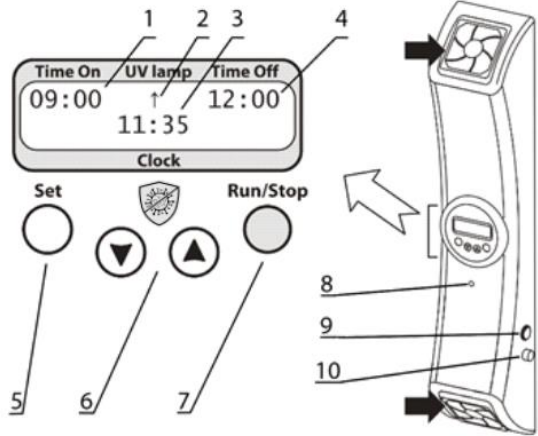

Figure 5. UVR-Mi control panel and overview
- 5.2.1 Plug the power cord to a grounded mains socket. Switch on the power switch (fig. 5/9) on the side to the right.
- Air flow recirculation start time in the automatic mode - Time On (fig. 5/1);
- Air flow recirculation end time in the automatic mode - Time Off (fig. 5/4);
- UV-recirculator operating indicator - UV lamp (fig. 5/2);
- Real time clock (fig. 5/3).
- 5.2.3 **Parameter setting.** Hold the **Set** key (fig. 5/5) pressed for more than 6 seconds to activate parameter setting mode.
- 5.2.3.1 Change the currently flashing parameter using the ▼ and ▲ keys (fig. 5/6). Pressing the key down longer than 2 seconds makes the values change quicker.
5.2.4.1 **Manual mode.** Press the **Run/Stop** key (fig. 5/7) to start or stop recirculation. While recirculator is working, symbol “↑” indication is shown on the display (fig. 5/2).
5.2.4.2 **Automatic mode.** Set recirculation start (**Time On**, fig. 5/1) and end (**Time Off**, fig. 5/4) times, as described in **5.2.3**. Unit saves the parameters after unplugging. On set start time, a powered unit starts recirculator, if it was not started already. On reaching the end time, unit turns off the recirculator.
5.2.7 **End of lamp lifetime and lamp failure.** At the end of lamp lifetime (9000 h) or in case of UV lamp failure, unit terminates operation and does not resume until lamps are replaced. Display shows “END OF UV LAMP LIFETIME” or “ERROR UV LAMP FAILURE” messages, respectively. Additionally, check the indicator (fig. 5/8) to see if the lamps are working. To replace the lamps, see **8.3**.